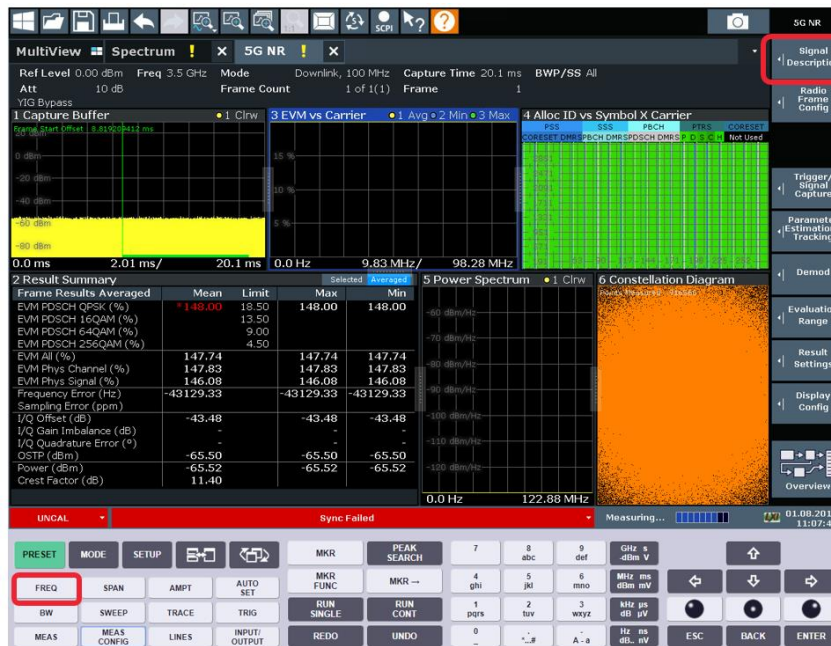

Fig. 2-9: 5G NR measurement Mode on the FSW
- Set Frequency: 3.5 GHz as shown in Fig. 2-9